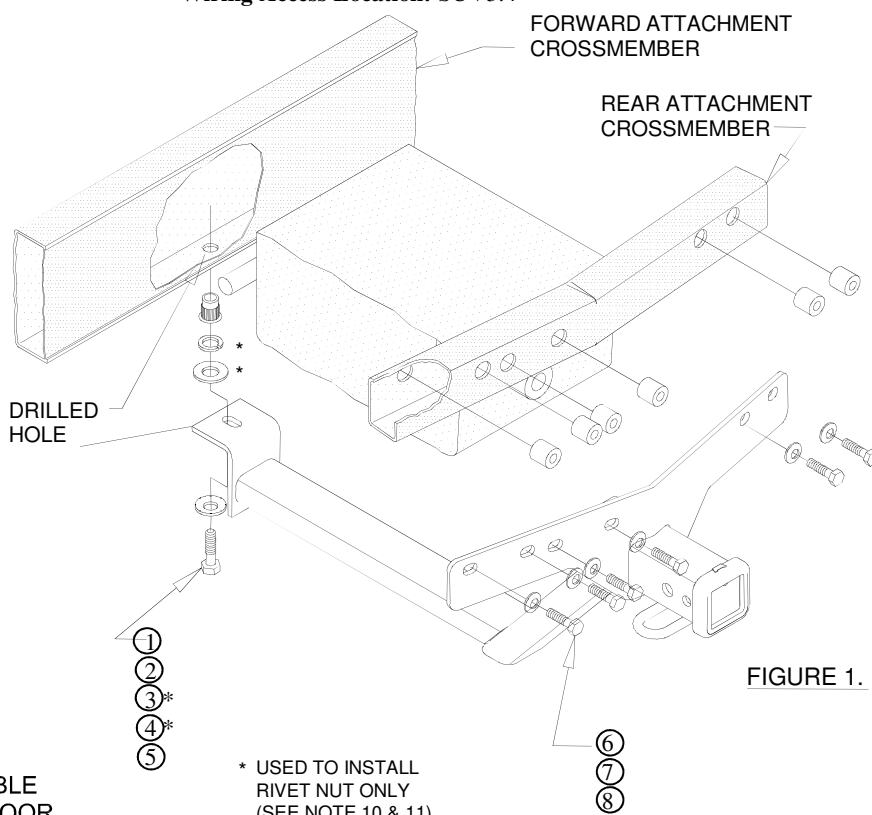

FIGURE 1.
4. RAISE HITCH INTO POSITION AND INSTALL THE TWO (2) OUTER M10 FASTENERS FINGER TIGHT. DO NOT TORQUE M10 FASTENERS AT THIS TIME.
6. REMOVE THE TWO (2) M10 BOLTS AND **TEMPORARILY** LOWER HITCH FOR DRILL ACCESS.
8. RAISE HITCH BACK INTO POSITION AND **LOOSELY** INSTALL THE SIX (6) M10 FASTENERS AS SHOWN IN FIGURE 1.
9. LOOSELY INSTALL FASTENERS FOR FORWARD ATTACHMENT AS SHOWN IN FIGURES 1 & 4.